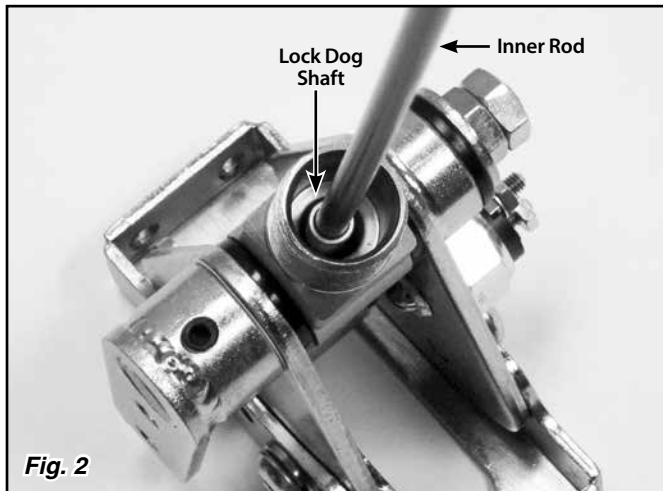

Fig. 2
- Step 5:** Place the bottom end of the new inner rod into the hole in the top of the lock dog shaft in the shifter. Push down on the inner rod until it bottoms out in the lock dog shaft. **Fig. 2 Make sure the inner rod is fully seated in the lock dog shaft!**